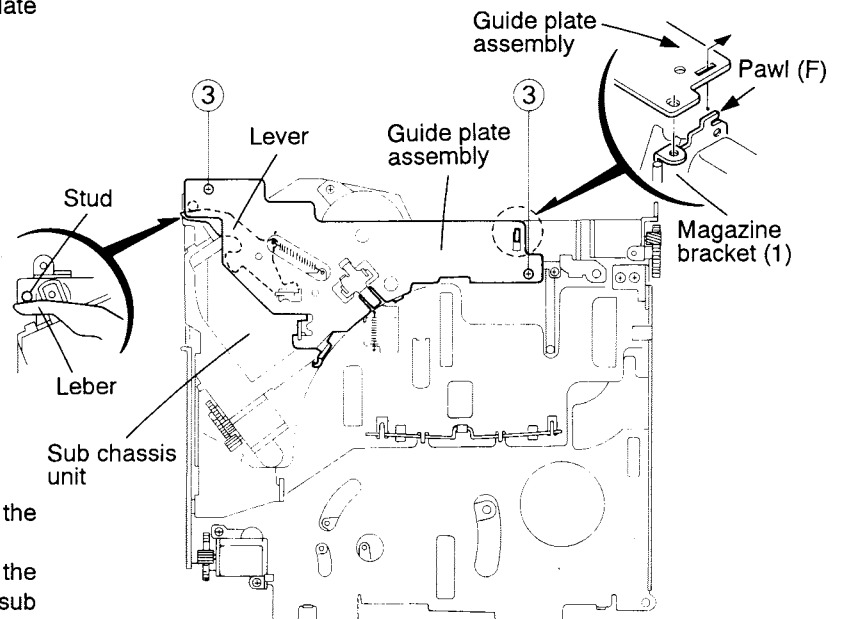

Fig. 4-16
(See Fig. 4-16)
1. Remove the guide plate assembly (See Fig. 4-16).
2. Remove the three nuts (4) retaining the pickup unit assembly.